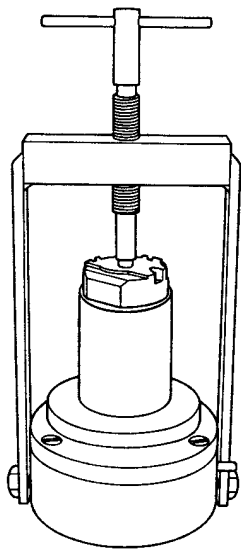

Figure 6.9
- A. Place rotor on T-152 spacer. (See Figure 6.9.)